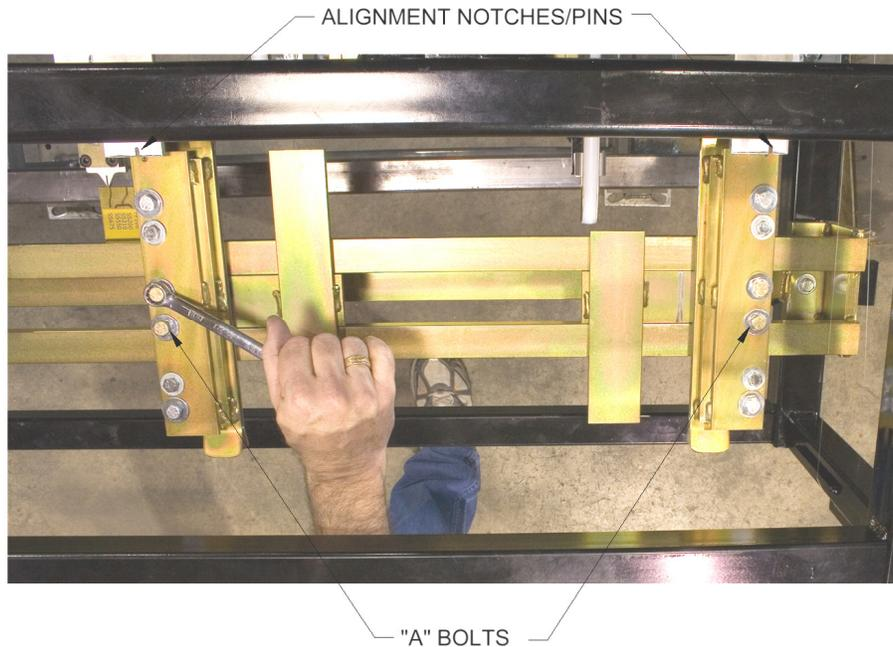

Figure 33: Entry Guide Bolts "A"
1. Loosen the two “A” bolts on the Left Entry Guide (Figure 33). Slide the entry guide to the left or right to accept the new coil width.